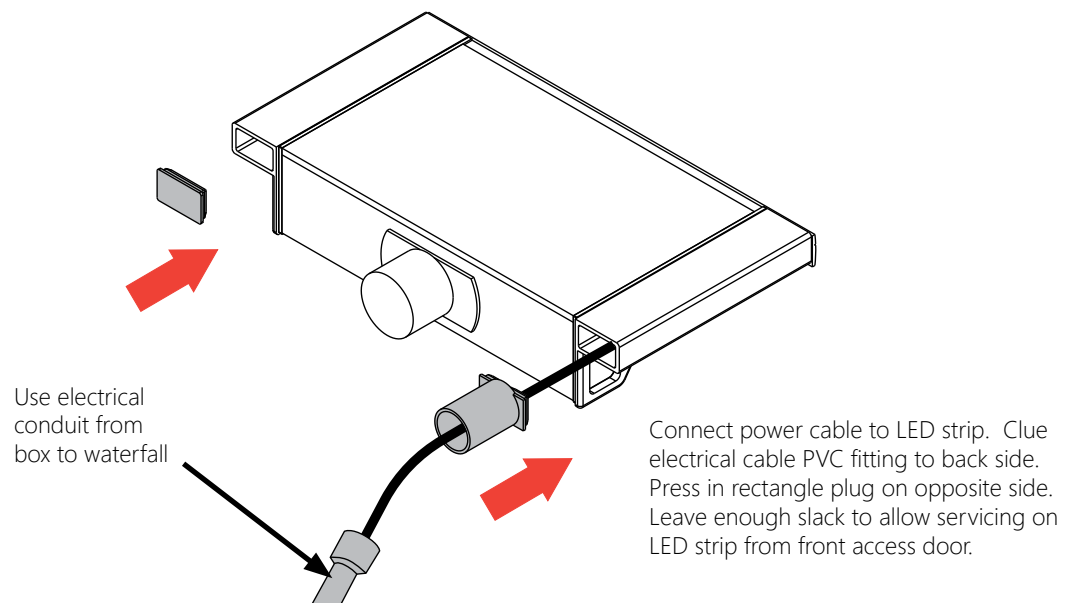

Figure 4: Electrical Wiring
When preparing for electrical installation, the Brilliant Wonders Waterfall is capable of accommodating conduit on either side (Figure 4). Choose which side to install the electrical PVC pipe. Refer to section 3.1.5 if you are planning on changing the electrical output side. Before securing the waterfall completely, glue the Adapter PVC fitting (D) to the back of the waterfall side to where the electrical connections will be made with PVC glue. **Gently tap the square plug (E) with a rubber mallet into the back of the opposite side for sealing. Not installing this plug may cause a water leak in the rear of the falls.**